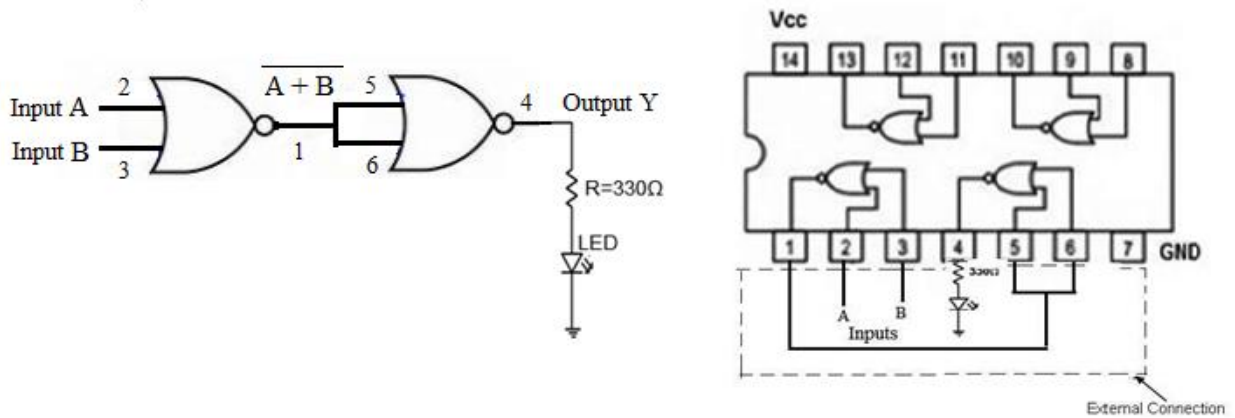

Figure 3.6 Logic diagram and IC Circuit diagram to verify OR operation using NOR gate IC 7402.
9. Repeat the process for all logic functions by making the connections as shown in Figure 3.6 and 3.7.